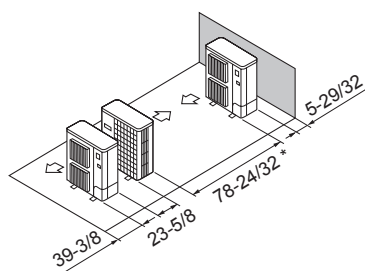

Fig. 2-15
⑤ Single parallel unit arrangement (Fig. 2-15)